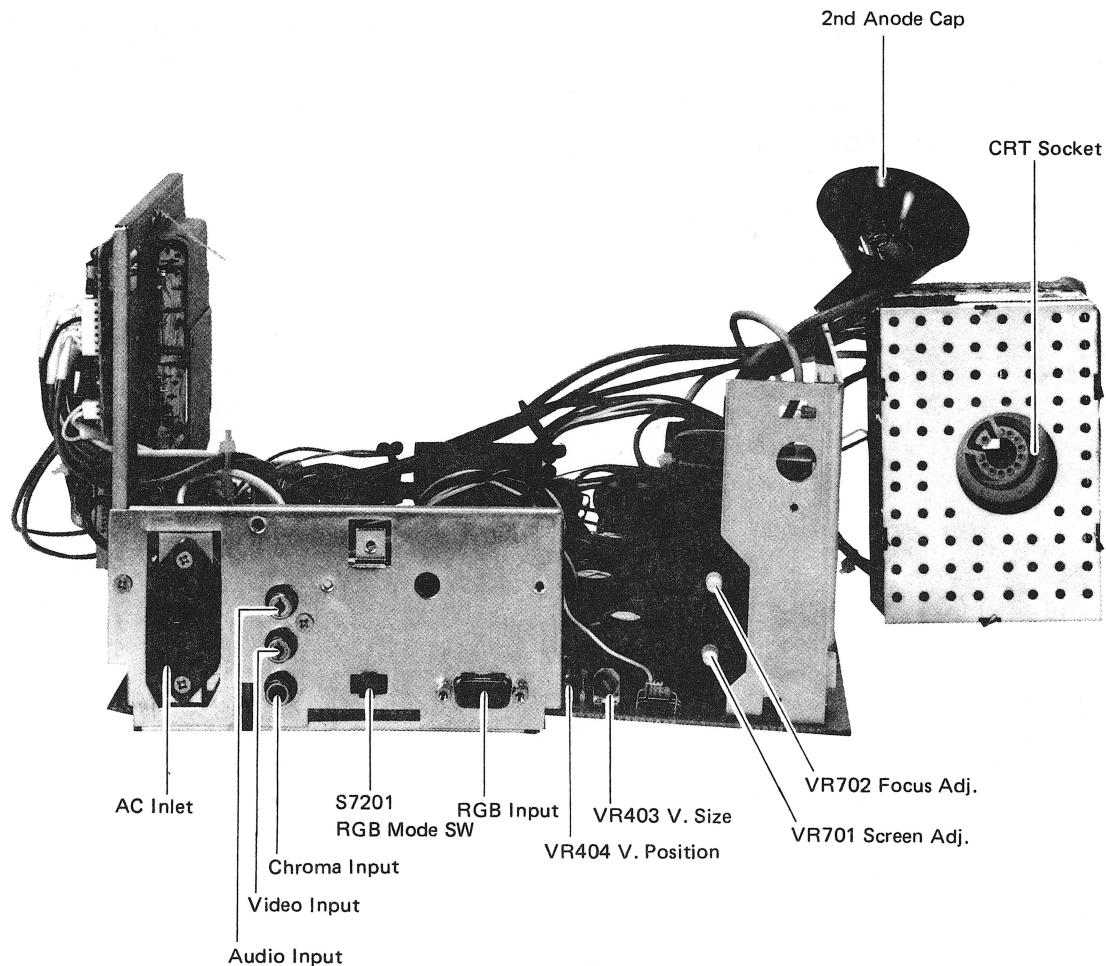

Fig. 1
Location of the control is shown in Figs. 1 and 10.
4.4 Horizontal Hold (VR451) Adjustment (See Figs. 1 and 10)